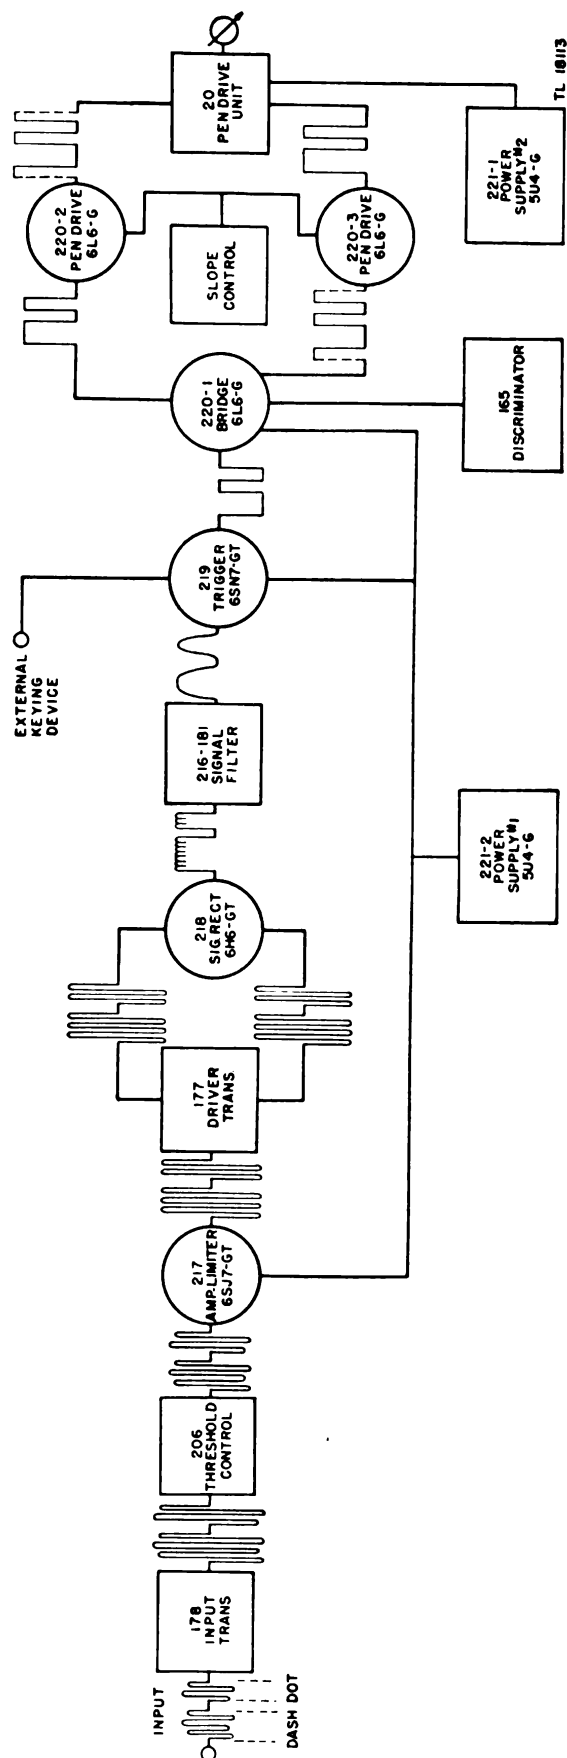

Figure 3. Functional block diagram.
d. The signal-rectifier stage feeds the signal into the trigger tube (219). The function of this tube and circuit is to give an output voltage of either of two values, a certain definite positive value during the space time of the signal, and a lower positive value during the mark time. The transition between these values is rapid, so the output signal of this circuit shows as a square waveform as shown in figure 3.
e. The signal is fed from the trigger stage into a bridge circuit (tube 220-1) with which a push-pull amplifier is associated. The push-pull circuit is built around tubes 220-2 and 220-3. These two circuits in combination translate the low-power output of the trigger circuit into signals strong enough to operate the pen-drive electromagnets (20), placing the pen in one position during space time and in another position during mark time. The waveform made by the pen is recorded on the moving tape that is drawn by the motor-powered tape drive roller (96) through the inker assembly.
(1) The SLOPE control (207) functions to adjust the minimum bias voltage on the grids of pen-amplifier tubes (220-2) and (220-3), controlling the amount of power the pen-drive unit receives. The rate of travel of the pen across the surface of the tape is determined by the amount of power supplied to the pen-drive unit; therefore, the slope of the waveform may be varied by means of this control.
(2) Under certain conditions the transition from one pen position to the other may become too rapid and it may be desired to artificially slow down this movement. This is accomplished by capacitors 214 and 215. Actually four values of capacitance are available and are switched into the circuit with the DISCRIMINATOR control (165). This part of the circuit is especially desirable in preventing spurious responses from certain types of interferences such as ignition noise, but it should be used at the lowest possible setting because it limits the top speed at which the recorder can operate.